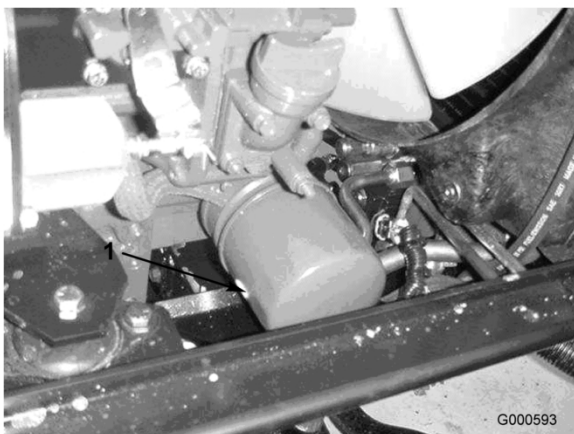

Figure 35
2. Remove the oil filter (Figure 35). Apply a light coat of clean oil to the new filter seal before screwing it on. Do not overtighten.